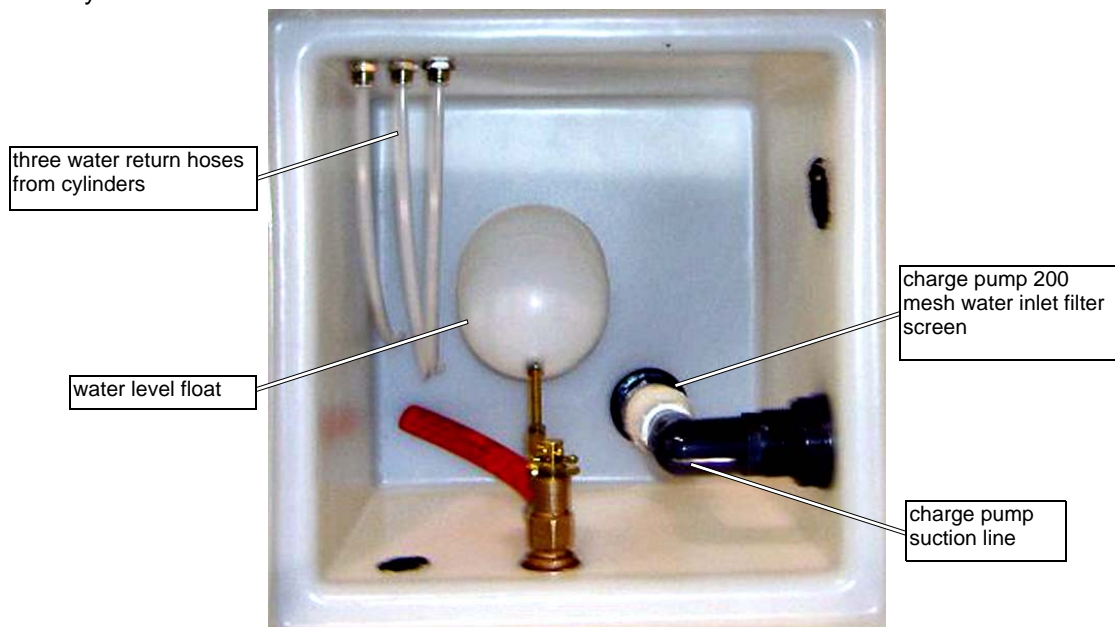

Figure 5-53: White Water Tank
2. This filtered water then flows to the white reservoir tank (Figure 5-53) located under the crankcase in the pump cabinet.
2. Remove the pump's front panel allowing access to the Water Tank (see Figure 5-53).